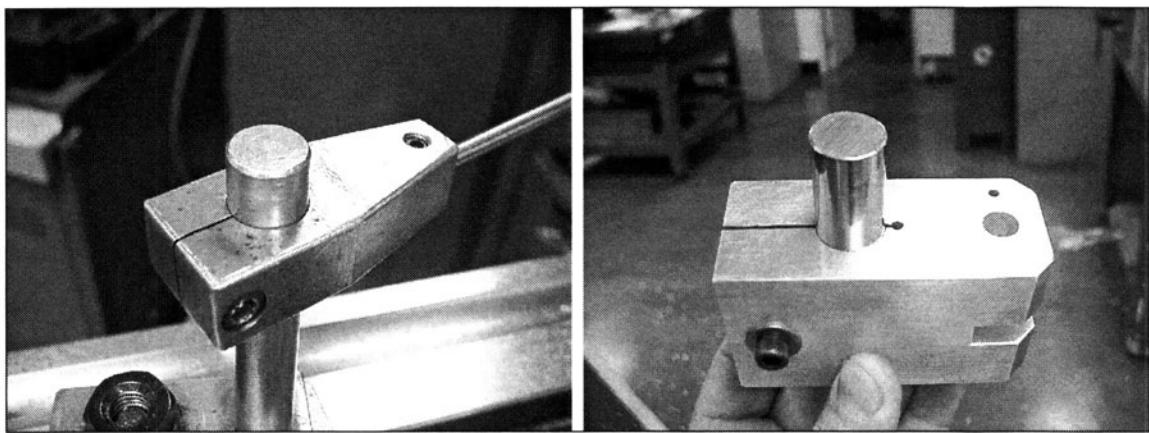

FIGURE 9-2 Flex type bar clamps work well when designed correctly.
35. *Design flex type bar “clamps” that collapse easily. (See Fig. 9-2)*